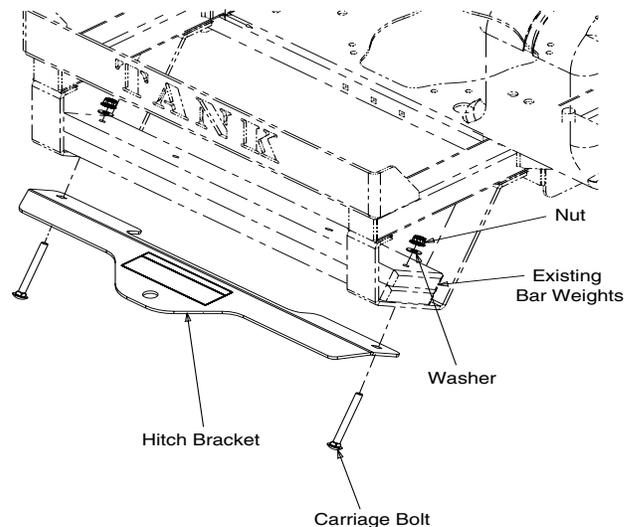

Figure 3
7. Place a 3/8 Flat Washer Ref. 1 (00012158) and a Flange Lock Hex Nut Ref. 2 (00022560) onto the carriage bolt Ref. 4 and hand tighten. See Figure 3 below.